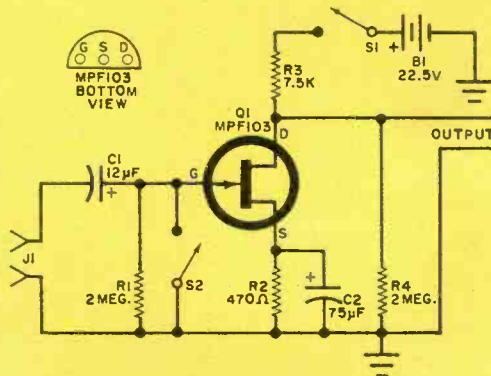

Fig. 2. Output level of the bridge is very low and this special pre-amplifier may be required. Capacitor C1 is made of tantalum foil.
**Construction.** The PPG is divided into three cable-connected sections: the finger-mounted transducer assembly, the measuring bridge, and a FET signal preamplifier (optional). The circuit for the transducer and bridge is shown in Fig. 1 and the schematic for the FET preamplifier is shown in Fig. 2.
Because the bridge output is a low-level, low-frequency signal, the FET preamplifier shown in Fig. 2 may be used to increase the signal level to a point usable by some scopes. This preamplifier is a conventional FET stage having the required very high input impedance so as not to reduce the low-frequency coupling ( $C_1$ ) at these one-to-two-Hz subaudible frequencies.
**Preamplifier.** The approximate bridge output amplitude of a PPG signal is 0.05-volt peak to peak. Your scope should have a vertical sensitivity of at least 10 mV per cm (25 mV per inch) at one to two Hz. However, if your scope does not have this sensitivity, the FET preamplifier (schematic in Fig. 2) should be built.
off in a bipolar transistor or vacuum tube. Therefore, after placing your finger in the transducer, you might have to wait fifteen seconds before the amplifier commences functioning and the signal appears on the CRT. To partially eliminate this delay, a momentary-contact switch ( $S2$  in Fig. 2) is connected across  $R1$ . With this switch closed,  $C1$  will charge in a fraction of a second. When you release this switch, the amplifier should function immediately.